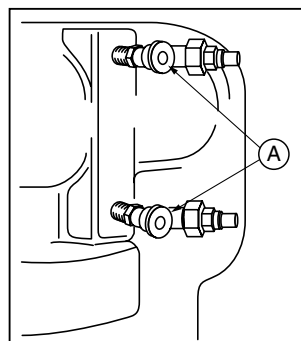
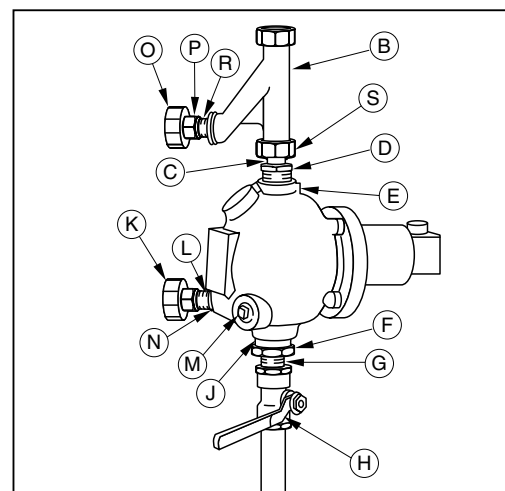

Figure 1
Figure 3
- a. See figures 1 and 2. Install both brass Y fittings (A) into the boiler gauge glass tapping.
- b. See figure 3. Install reducing bushing (D) and nipple (C) into top 1" (25mm) NPT tapping (E). Install reducing bushing (F), nipple (G), and blow down valve (H) into 1" (25mm) NPT (J).
- c. See figure 3. Slip union nut (K) over lower tail piece (L) and screw it into either 1/2" (15mm) tapping (M) or (N). Use the 1/2" (15mm) pipe plug to close unused tapping. Slip union nut (O) over union piece (P) and nipple (R) and install into black Y (B). Slide black Y (B) over nipple (C). Connect upper (O) and lower (K) unions to brass Y fitting (A, figure 1) and tighten. **NOTE:** the black Y (B) will have to be moved up or down to mate the union halves. Tighten compression nut (S).